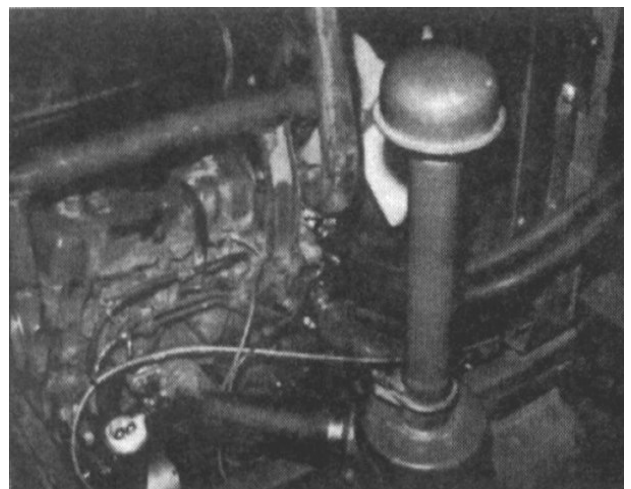

Figure 18
3. Secure hose to fittings using hose clamps. Figure 18.